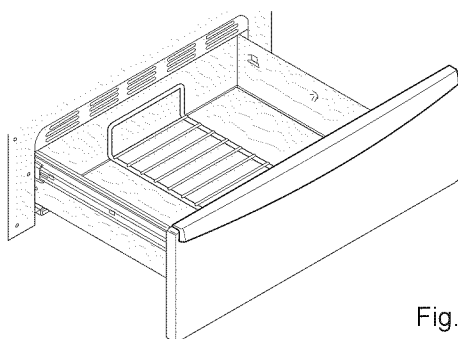

Fig. 2
- In the **downward position** (See Fig. 2) to allow for light weight food items and empty cookware (for example, rolls or pastries and dinner plates) on the rack.